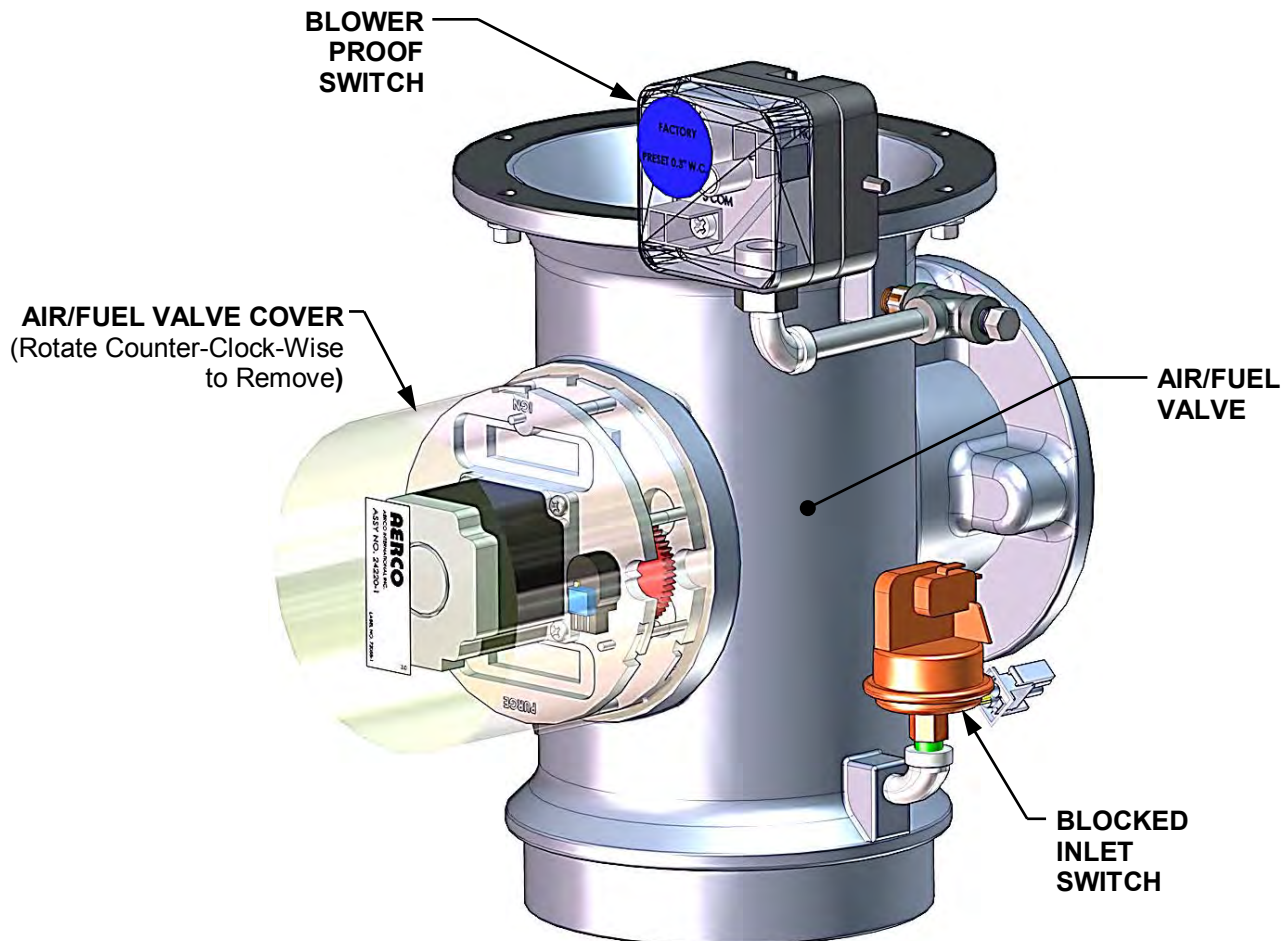

Figure 6-6: Air/Fuel Valve Cover Location
3. Remove the Air/Fuel Valve cover by rotating the cover counterclockwise to unlock it (see Figure 6-6).
4. Remove one of the two wires (#171 or #172) from the Purge Switch (Figure 6-6).
3. Remove the Air/Fuel Valve cover (Figure 6-6) by rotating the cover counterclockwise to unlock and lift up to remove.